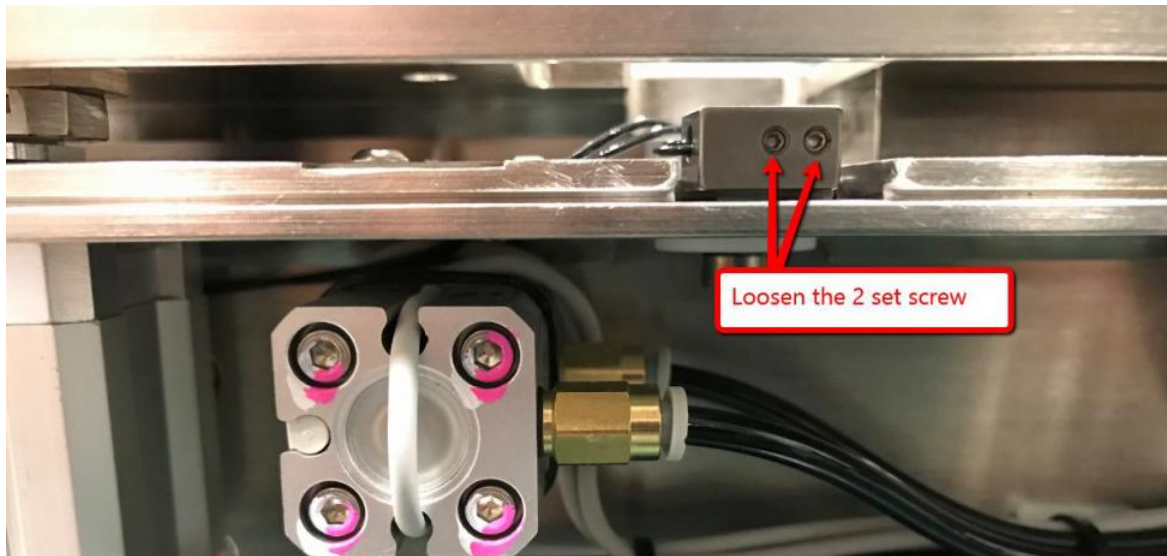

Figure 3 Loosen the 2 set screw
3. Loosen 2 x set screws & remove PIP sensor head from PIP board stop as Figure 3